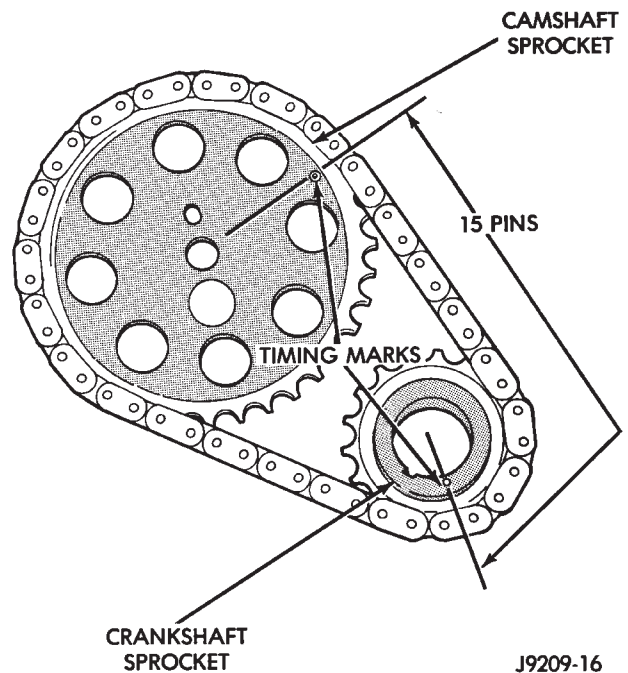

Fig. 7 Verify Sprocket—Chain Installation—Typical CAMSHAFT
(1) Apply Mopar Silicone Rubber Adhesive Sealant to the keyway in the crankshaft and insert the key. With the key in the keyway on the crankshaft, install the assembly on the crankshaft and camshaft.
(2) Install the camshaft sprocket retaining preload bolt and washer (Fig. 7). Tighten the preload bolt to 108 N·m (80 ft. lbs.) torque.